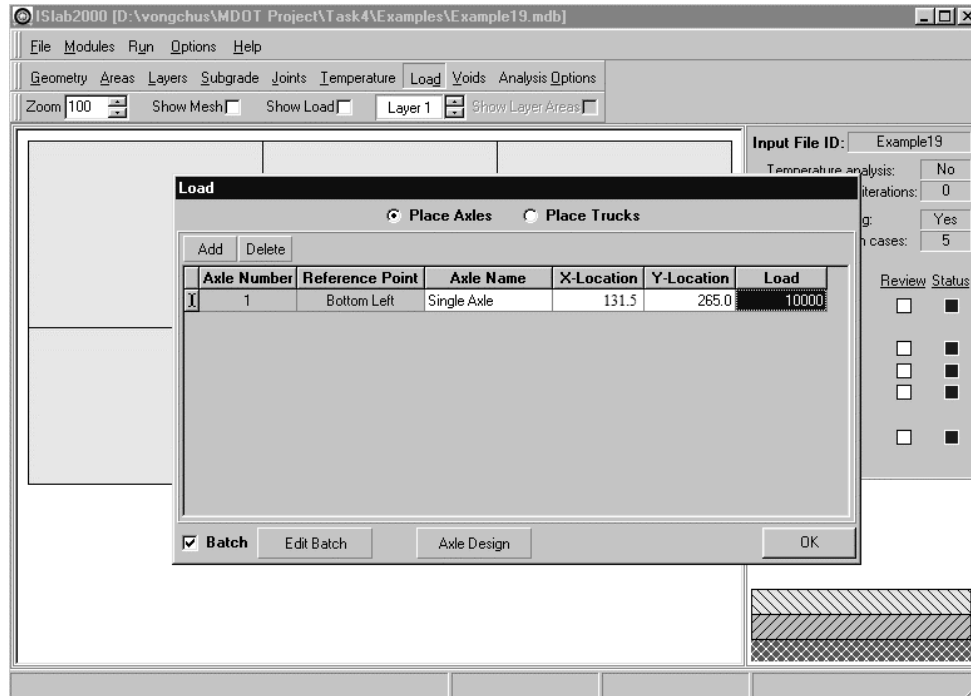

Figure E19-2: Edit Inputs for the Load Module
(see Figures E19-2 and E19-3)
- Step 3: Select **Batch** and then click **Edit Batch** to open the batch load panel (see Figure E19-2).